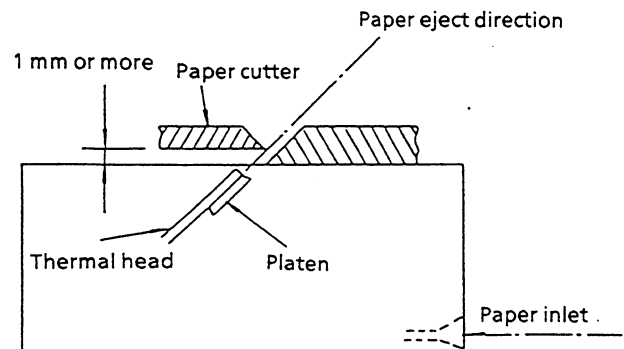

Figure 6-2 Paper Cutter Mounting
- Design the layout so that the tip of the cutter is located on line with paper ejection, as shown in Figure 6-2.